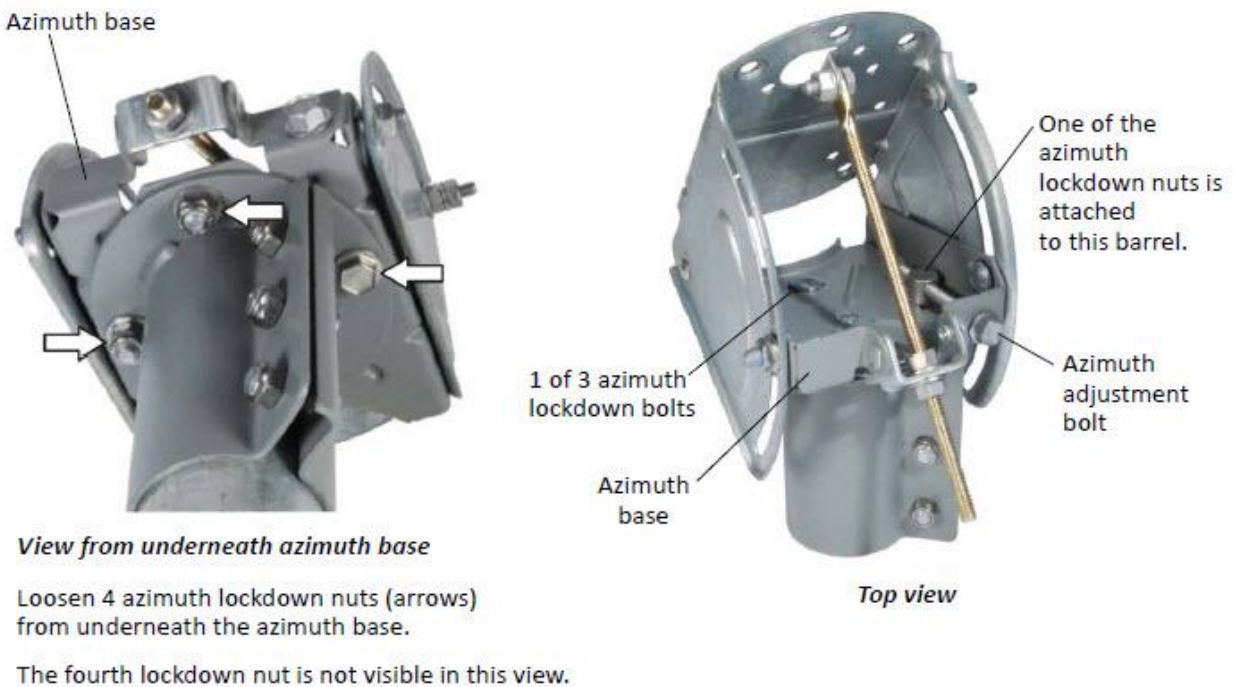

Figure 32: Checking the azimuth base starting position
Before making any azimuth adjustments, make sure the azimuth lockdown bolts are centered in the curved slots in the azimuth base. See Figure 32.
2. Using a ½ inch wrench, rotate the azimuth adjustment bolt shown in Figure 32 in either direction to achieve the desired azimuth angle.